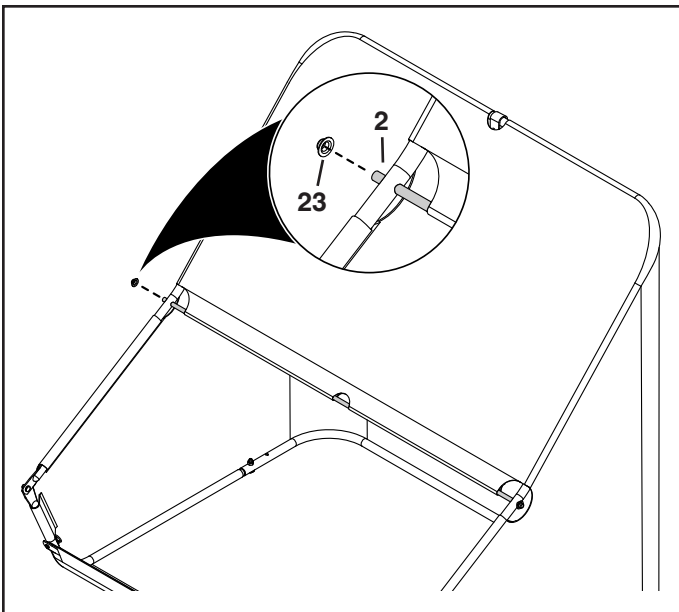

FIGURE 16
26. Slide the pivot rod (2) through the flap in the bag's windscreen first and then through the hole in each upper hopper tube. See figure 16.
27. Hammer a palnut (23) onto each end of the pivot rod. See figure 16.